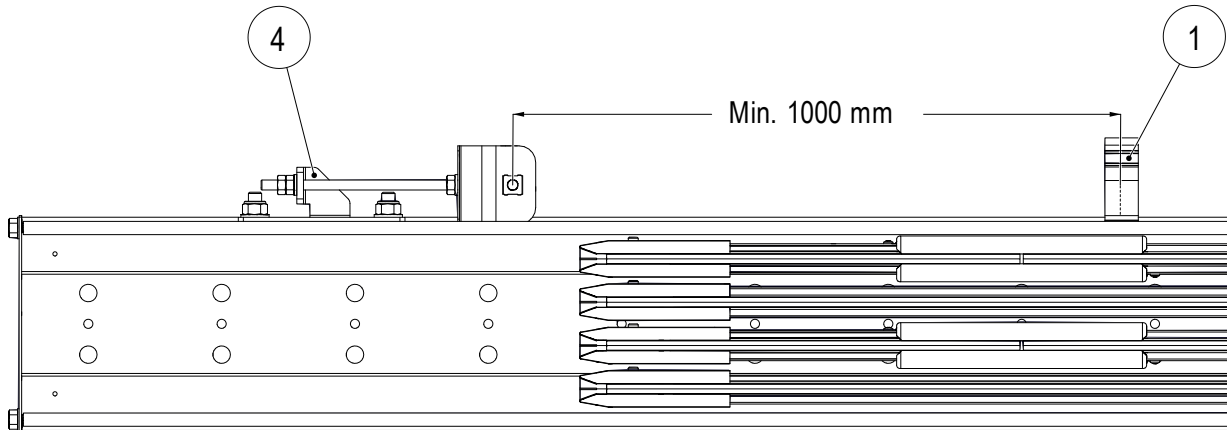

Fig. 46: Observe distance between tensioning unit (4) and band bracket (1)
5. Install the tensioning unit (4) at the beginning and at the end of the ProShell support profile, taking into account the distance of 1000 mm from the band bracket (1) (see Fig. 46).